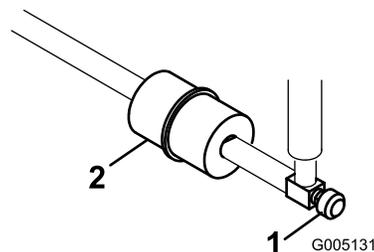

Figure 46
An in-line filter is incorporated into the fuel line between the fuel tank and carburetor (Figure 46). Be sure the arrow on the filter is pointing away from the fuel tank.
- Close the fuel shut off valve, loosen the hose clamp on the carburetor side of filter, and remove the fuel line from the filter (Figure 46).
- Place a drain pan under the filter, loosen the remaining hose clamp and remove the filter (Figure 46).